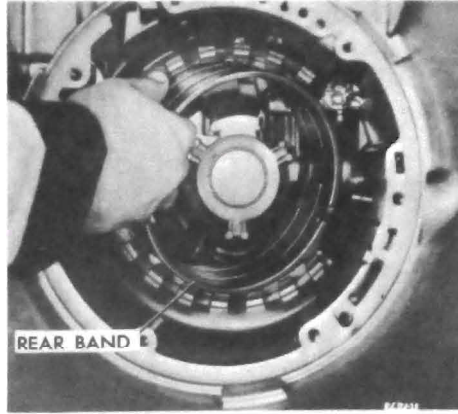

Figure 76-751
6. Install the rear band assembly so that the two lugs index with the two anchor pins. See Figure 76-751